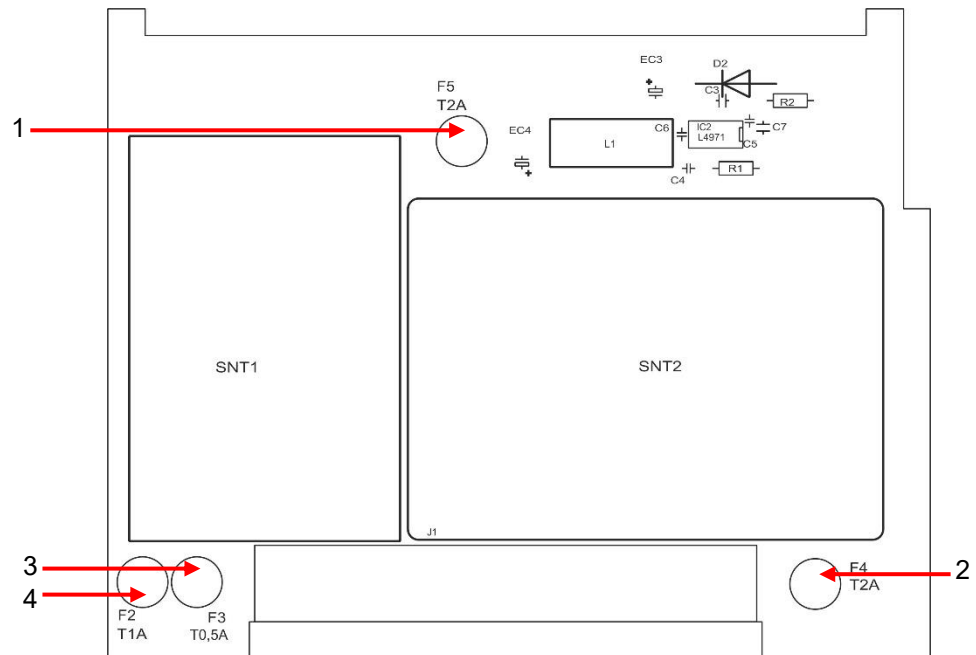

Figure 37
These fuses protect the Testomat® PRO CLT device or outputs against overload and short circuit. All fuses are pluggable. The main fuses F1 (1) and F6 (2) (4 A MT) for outputs and equipment are located on the motherboard (see figure 37). The power pack includes the four primary and secondary fuses, F2 to F5 for 24V and 12V, 3.3V